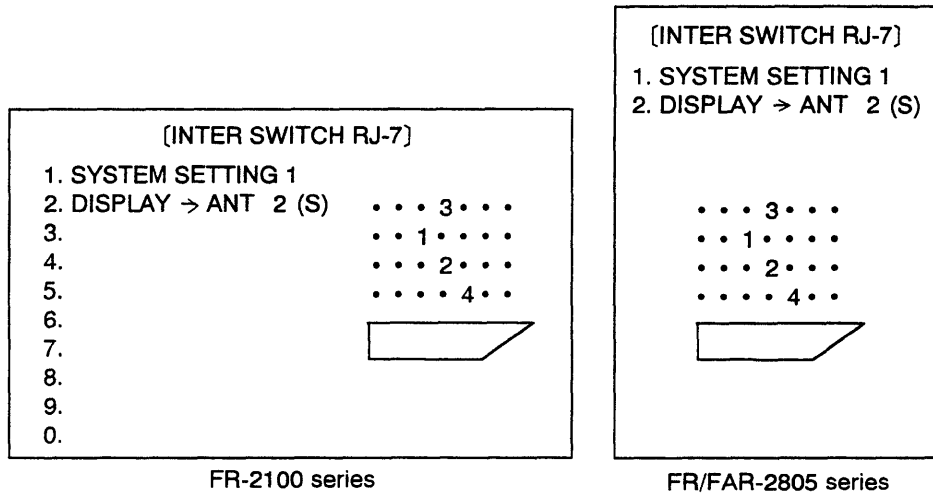

Fig. 1-3 INTERSWITCH RJ-7 menu, when radar functions as slave
1. Press (for 2805 series, for 2105 series) in this order. The INTER- SWITCH RJ-7 menu appears, showing current combinations. (The menu differs if the radar is set to “SUB” on the item “Display” of the INITIAL SETTING menu. See Fig. 1-3.)
When the display unit is set to "SUB" on the INITIAL SETTING 2 menu, the following menu appears. Use the 2 key to select the scanner unit. In Fig. 1-3, display unit receives target echoes from scanner unit no. 2.